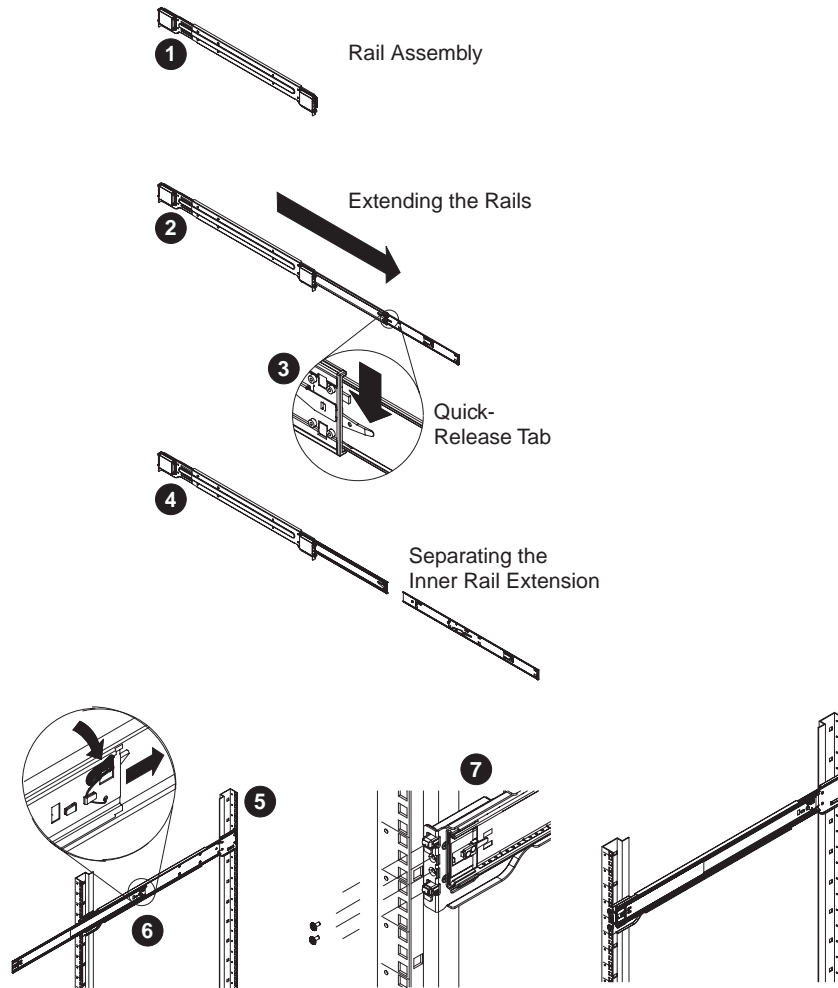

Figure 3-1 Separating and Installing the Rack Rails
1. Locate the rail assembly in the chassis packaging as shown in Figure 3-1.
4. Separate the inner rail from the outer rail assembly as shown in Figure 3-1.
Steps 5–8 describe how to install the outer rails to the rack (see Figure 3-1):